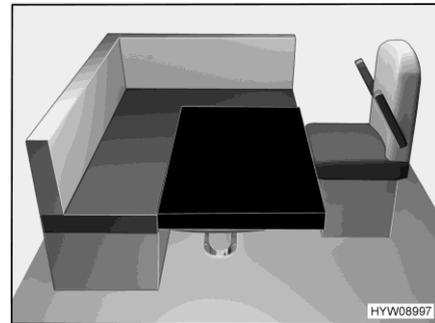

Fig. 72 After conversion
- Insert the additional cushion onto the table as shown in Fig. 72. The rounded corner faces to the front right.